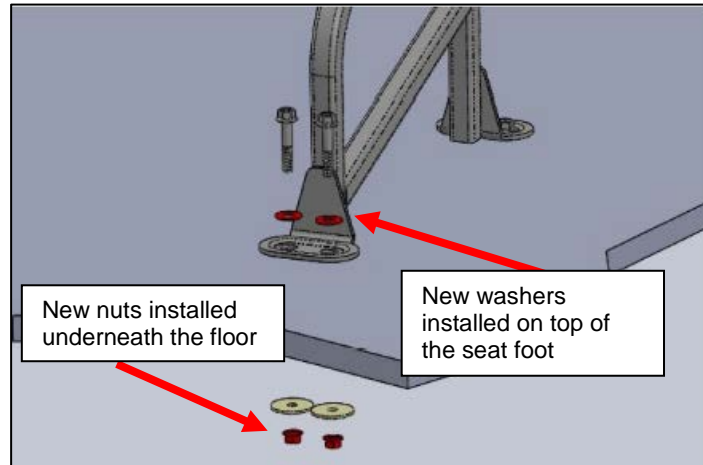

Figure 2: Hardware Installation Locations
5. Remove the bolts (inside the bus) and add one new washer to each bolt then reinsert each bolt through the foot of the seat and the floor of the bus. Reinstall any hardware removed in step 4 above in the same location as the bolts are reinserted. See **Figure 2**.
6. Install new nuts and the existing washers on the bolts from underneath the bus. See **Figure 2**.